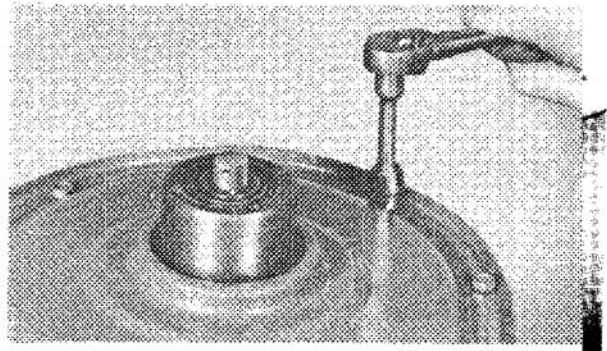

Figure 22
4. Place oil pan under gear case assembly. Loosen the ten (10) capscrews securing cover to gear case (Fig. 22).